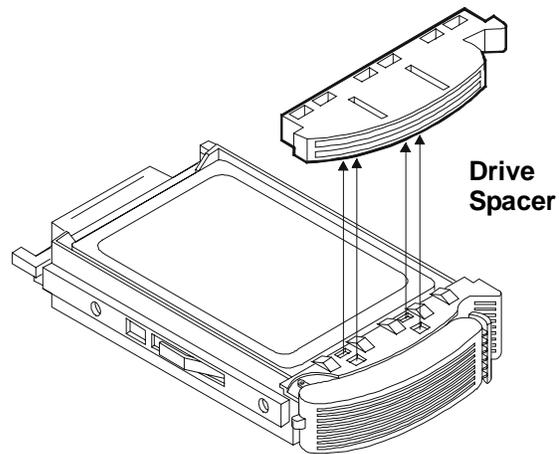

Figure 4-6. Removing the Drive Spacer
- Pull the drive spacer forward slightly to disengage the back two feet and lift (see Figure 4-6).